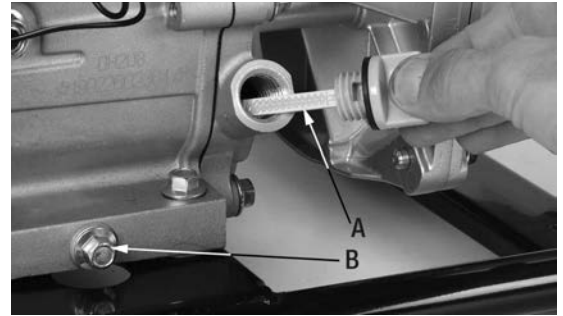

Figure 12
- 1) Unscrew and remove the oil gauge dipstick (A) Fig.12.
- 2) Place an oil pan underneath drain hex. bolt (B), remove hex. bolt (B) and drain oil.
- 3) Once all the oil has completely drained, retighten the hex. bolt (B).